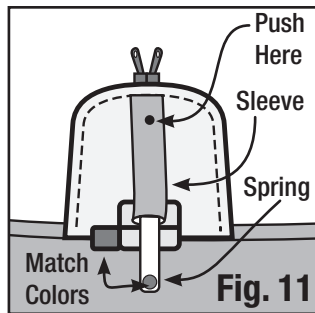

Fig. 11
NOTE: The springs are stored in the stake bag. Carefully unroll the springs. The color marking on each spring should match the color "flag" sewn to the window sleeve opening and always face the operator. (Fig. 11)
1. Close window and locate the sleeve in the window panel. Open the hook & loop fastener to insert spring. Close the hook & loop fastener. (Fig. 11)
2. Before opening the window, push in at top of the springs to activate the self-rolling feature. (Fig. 11)
3. Operate both zipper pulls at the same time to open and close the window. (Fig. 11 and 12)